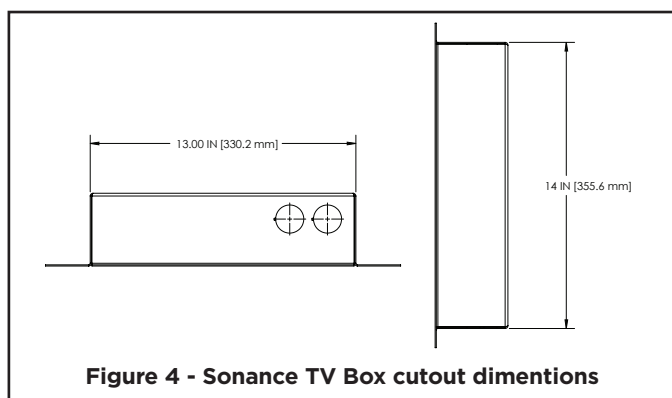

**Figure 3**
- After you have determined the center location of your television, and have determined where your TV bracket will be installed, you can now move onto determining the location of the Sonance TV Box. **See Figure 3** for positioning ideas for the The SONANCE TV Box.